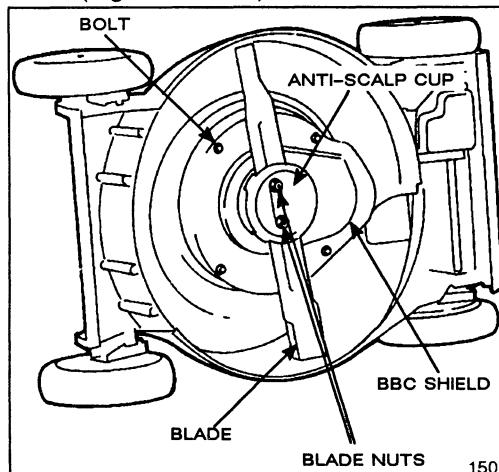

Figure 28
4. Remove (2) blade nuts, anti-scalp cup, blade, blade spacer, and (4) bolts securing BBC shield to mower deck (Figs. 28 & 29).